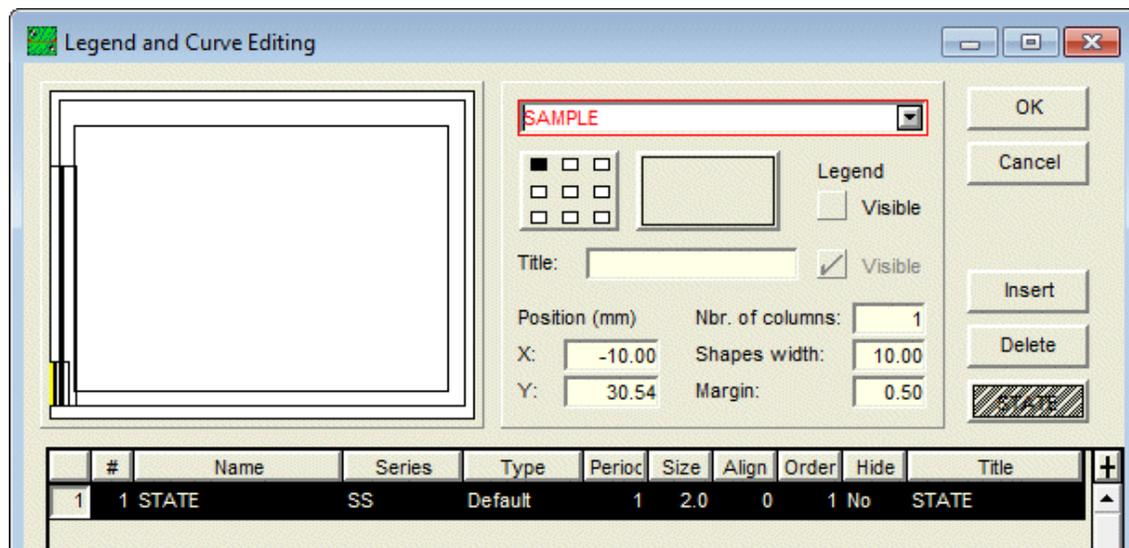

Figure 16 - Selection of a sample type in a **SAMPLE** sub-graph
**Site** allows the user to restrict the display of the samples to just one type. To do this, indicate the type of samples to display in the **Series** column. In the example in figure 16, "**SS**" requests the representation of the split spoons.